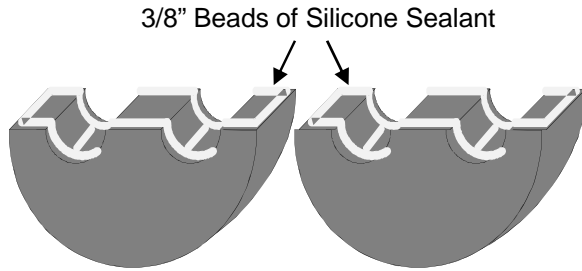

Figure 23
11.8 Instead, apply silicone sealant with a caulking gun in 3/8" beads along the seams of the End Plate sections and along the outside edges. Also apply the sealant within the cable entry grooves in each End Plate section. **See Fig. 23.**